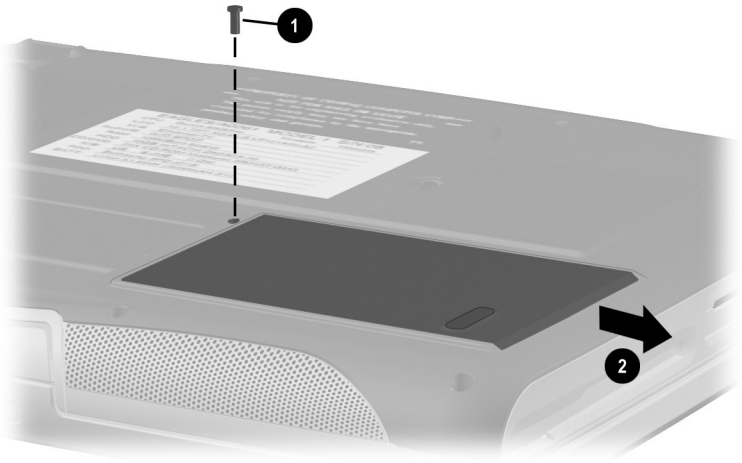

Figure 5-5. Releasing the Hard Drive
- b. Remove the black PM2.0 × 7.0 hard drive retention screw ❶ (Figure 5-5).
- c. Slide the hard drive to the right to unseat the hard drive connector ❷.